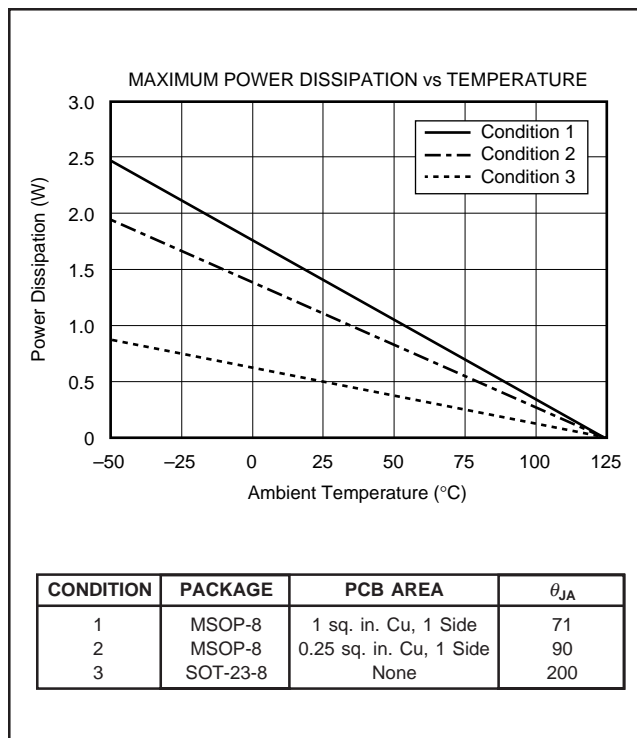
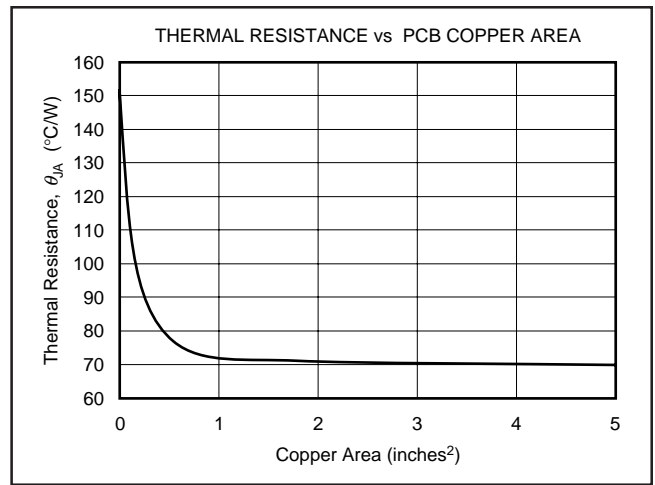

FIGURE 6. Maximum Power Dissipation versus Ambient Temperature for the Various Packages and PCB Heat Sink Configurations.
FIGURE 7. Thermal Resistance versus PCB Area for the MSOP-8.
(4) For  $V_{ENABLE} > 6.5\text{V}$ , see typical characteristic  $I_{ENABLE}$  vs  $V_{ENABLE}$ .
(5) The REG113 no longer regulates when  $V_{IN} < V_{OUT} + V_{DROP(MAX)}$ . In dropout, the impedance from  $V_{IN}$  to  $V_{OUT}$  is typically less than  $1\Omega$  at  $T_J = +25^{\circ}\text{C}$ .
(6) See Figure 7.
The REG113 is available in two different package configurations. The ability to remove heat from the die is different for each package type and, therefore, presents different considerations in the printed circuit board (PCB) layout. On the MSOP-8 package, leads 5 through 8 are fused to the lead frame and may be used to improve the thermal performance of the package. The PCB area around the device that is free of other components moves the heat from the device to the ambient air. Although it is difficult or impossible to quantify all of the variables in a thermal design of this type, performance data for several simplified configurations are shown in Figure 6. In all cases the PCB copper area is bare copper, free of solder resist mask, and not solder plated. All examples are for 1-ounce copper and in the case of the MSOP-8, the copper area is connected to fused leads 5 to 8. See Figure 7 for thermal resistance for varying areas of copper. Using heavier copper can increase the effectiveness in removing the heat from the device. In those examples where there is copper on both sides of the PCB, no connection has been provided between the two sides. The addition of plated through holes will improve the heat sink effectiveness.